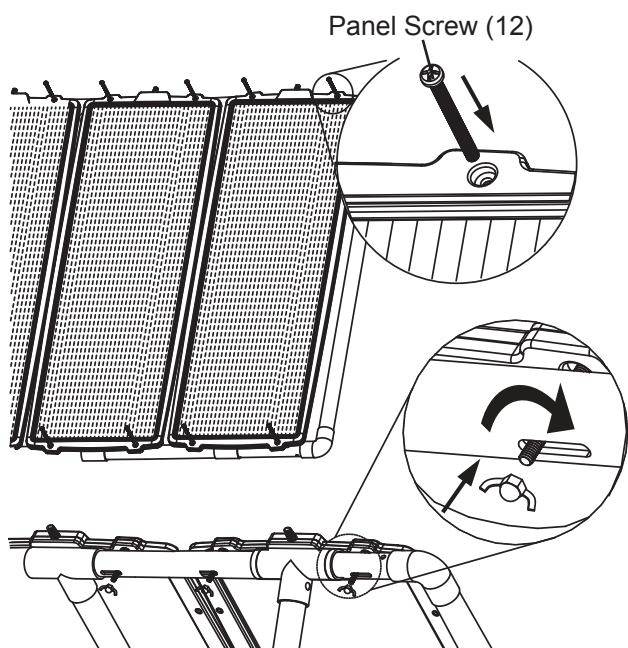

Figure 4
5. Determine where you want to position the frame assembly, making sure it is facing south (for maximum sun exposure) with no obstructions in front of it. The Charge Controller (16) must be in a dry, well ventilated location nearby. If necessary, build a small structure that guarantees the unit will stay dry during rain or snow, and, provide enough ventilation to allow the unit to vent and cool properly.
6. Set the Solar Panels onto the frame assembly, aligning the Panels' mounting holes with the mounting holes on the Top and Bottom Tubes. Use the Panel Screws (12) and Nuts to secure the Solar Panels to the frame assembly. See Figure 4, below.